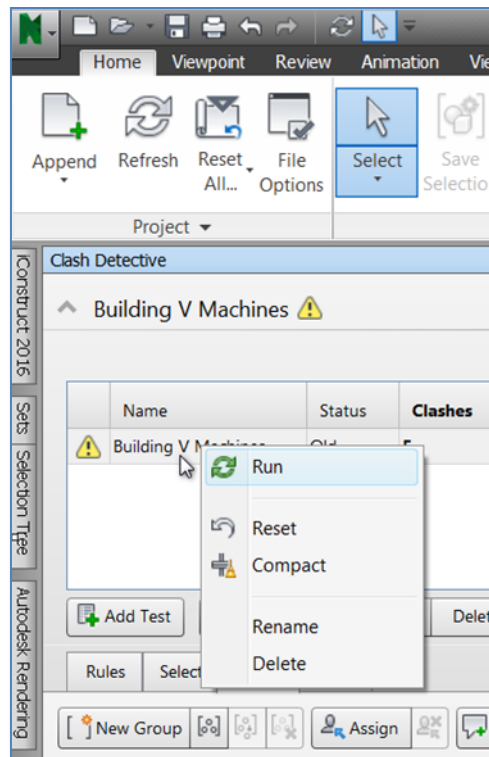

FIGURE 16: UPDATING THE CLASH RESULTS
2. Now, to update the clash test, right-click on the clash test name in the top area of the **Clash Detective** window and select **Run**, as shown in Figure 16.